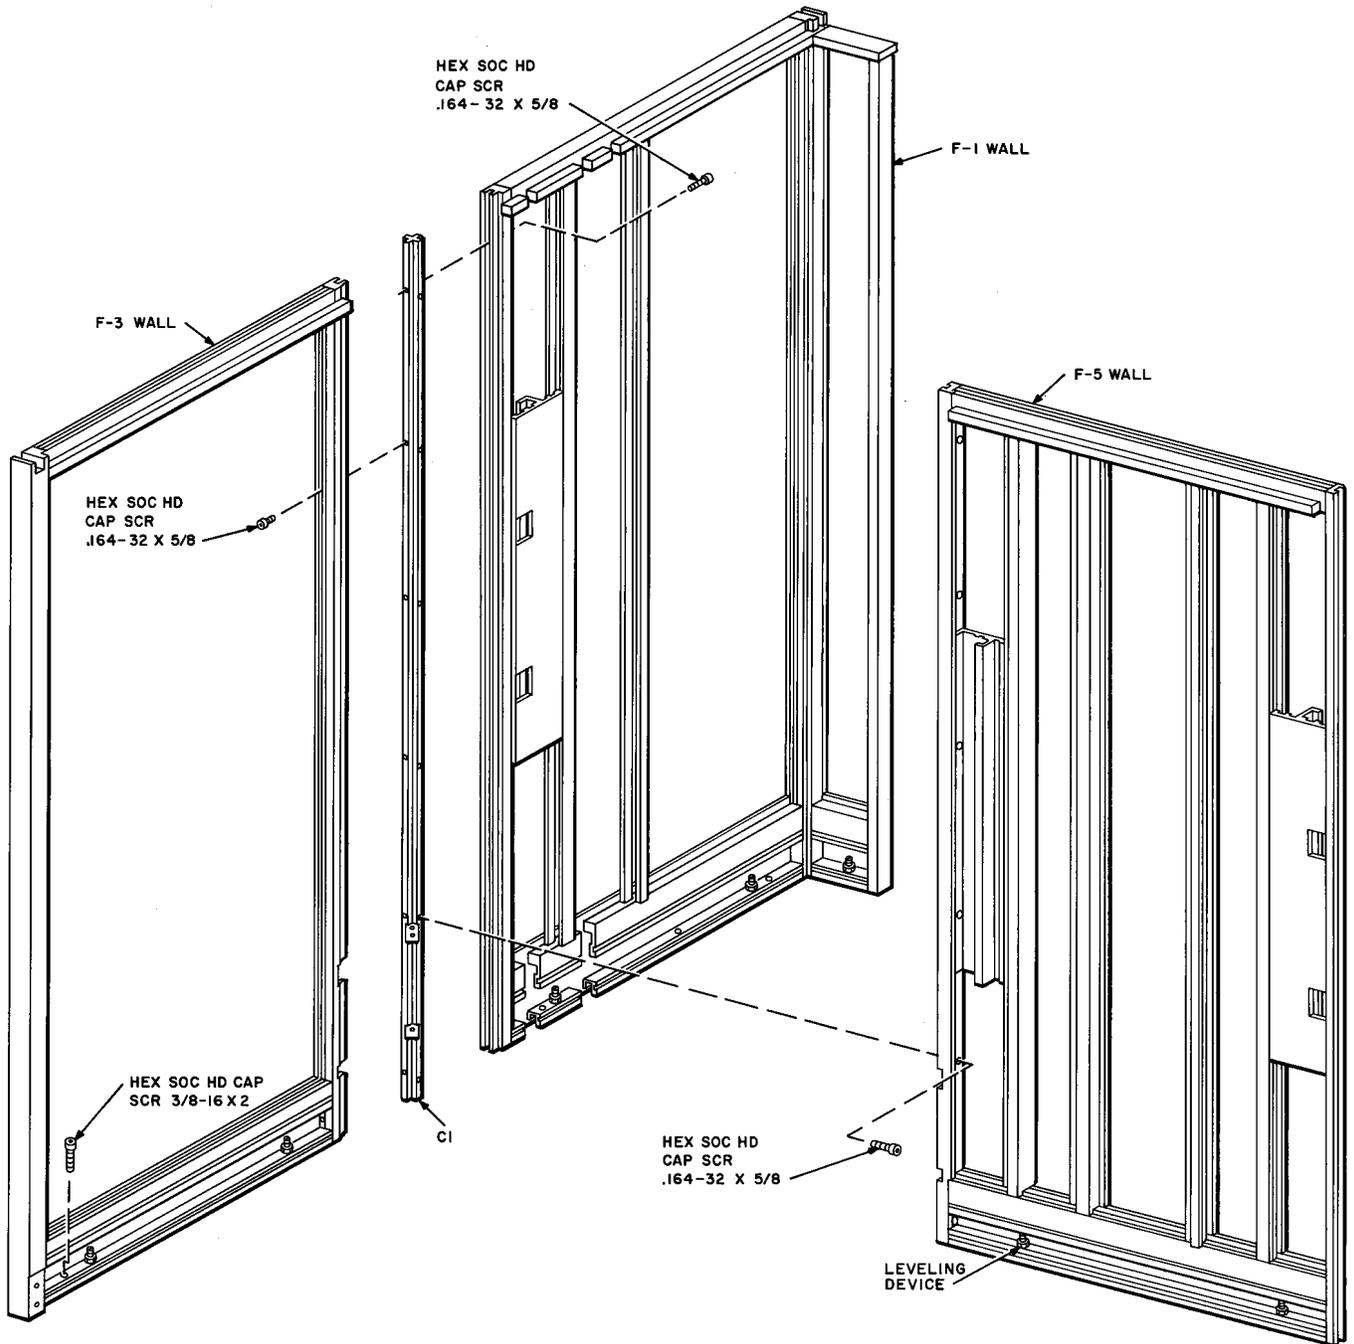

Fig. 30 — Assembly of F-1, F-3, and F-5 Walls
- (a) Place one F-3 wall frame (Fig. 30) in position for the left wall of the prime booth.
- (b) Place one F-3 wall frame (Fig. 30) in position for the wall of the prime booth.